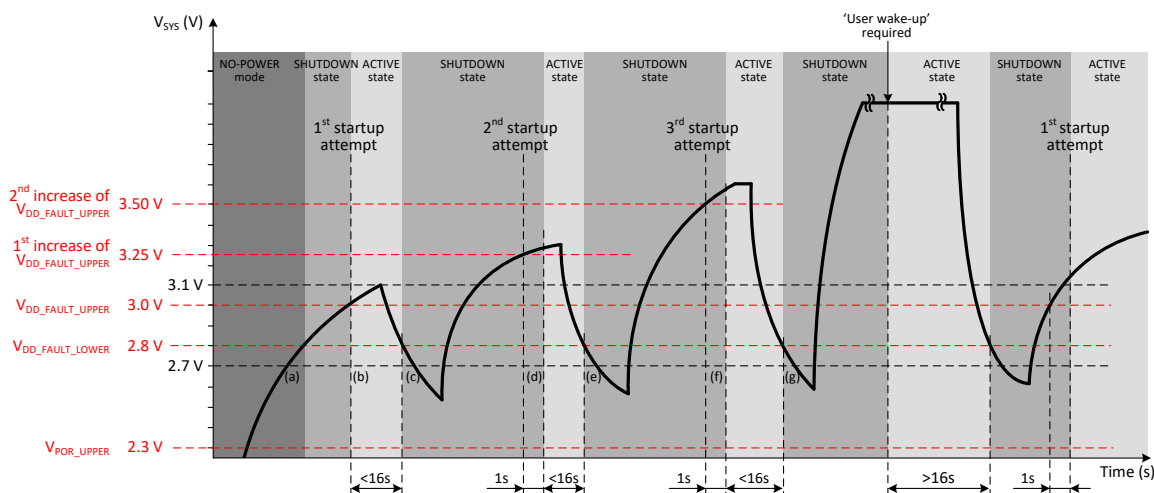

Figure 13: VDD_START Faults
The DA9063L `VDD_START` feature prevents endless looping of false-starts in a weakly-powered system. `VDD_START` limits the number of automatic restart attempts to three. With reference to Figure 13:
- Figure 13\(a\): the PMIC starts from NO-POWER mode.
- Figure 13\(b\): First startup attempt. The PMIC transitions to the ACTIVE state when V_{SYS} rises above $V_{DD_FAULT_UPPER}$.
- Figure 13\(c\): If, during the first startup attempt, the V_{SYS} supply drops below $V_{DD_FAULT_LOWER}$ for more than 100 ms, the PMIC shuts down to the SHUTDOWN state. $V_{DD_FAULT_UPPER}$ is increased automatically by 250 mV. However, the increased $V_{DD_FAULT_UPPER}$ is limited to a maximum of 3.70 V.
- Figure 13\(d\): Second startup attempt. If V_{SYS} rises above the new $V_{DD_FAULT_UPPER}$ threshold, then the PMIC will power-up to the ACTIVE state.
- Figure 13\(e\): If, during the second startup attempt, the V_{SYS} supply drops below $V_{DD_FAULT_LOWER}$ for more than 100 ms, the PMIC shuts down to the SHUTDOWN state. $V_{DD_FAULT_UPPER}$ is increased automatically by a further 250 mV (500 mV above its original setting). However, the increased $V_{DD_FAULT_UPPER}$ is limited to a maximum of 3.70 V.
- Figure 13\(f\): Third startup attempt. If V_{SYS} rises above the new $V_{DD_FAULT_UPPER}$ threshold, then the PMIC will power-up to the ACTIVE state.
- **Figure 13(g):** If, during the third startup attempt, the V_{SYS} supply drops below $V_{DD_FAULT_LOWER}$ for more than 100 ms, the PMIC shuts down. From then on, `AUTO_BOOT` and wake-up from non-user events are temporarily disabled. 'User events' are defined in Table 30.